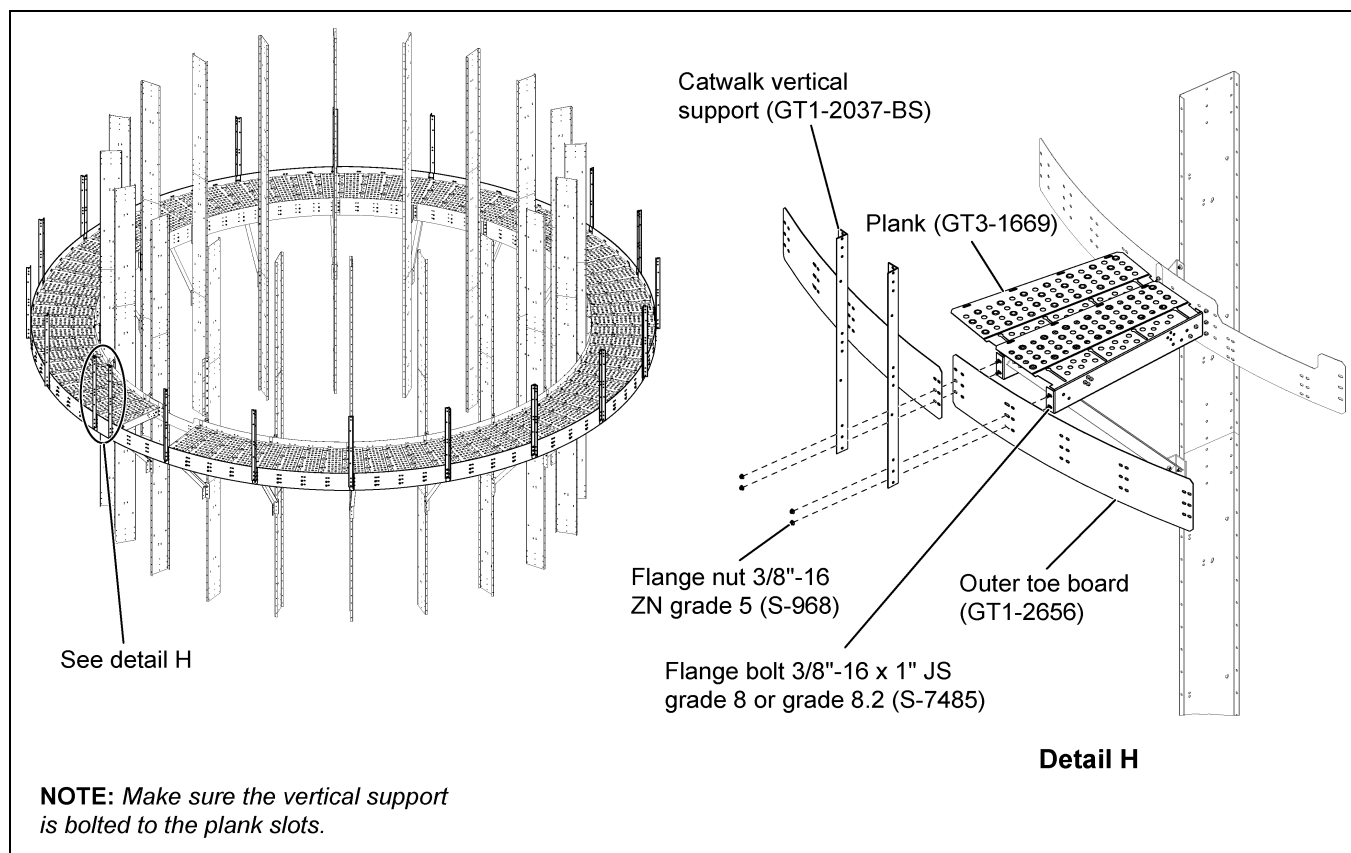
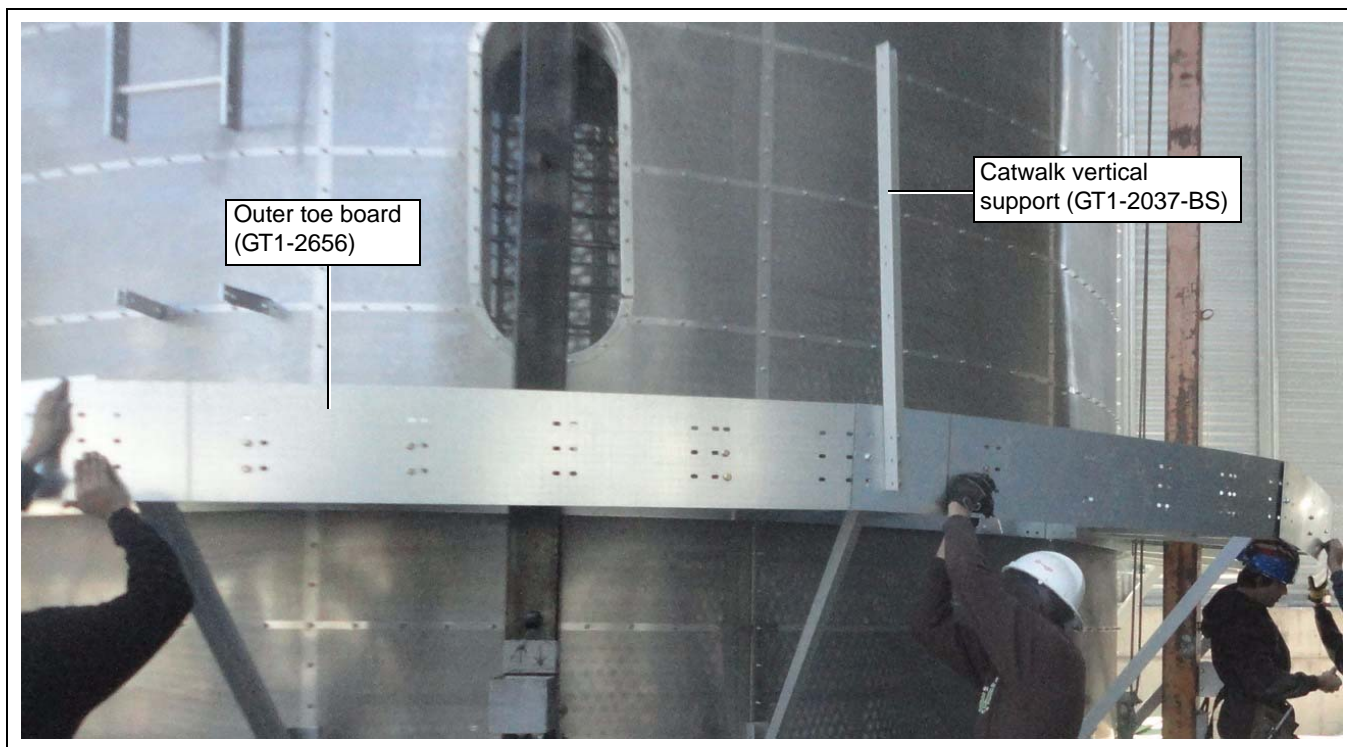

Figure 4R
Figure 4T
1. Install all the outer toe boards (GT1-2656) to the planks (GT3-1669). (*See Figure 4R.*)
2. When installing the outer toe board (GT1-2656) with planks (GT3-1669), install the catwalk vertical support (GT1-2037-BS) simultaneously at proper locations using 3/8"-16 x 1" JS grade 8 or grade 8.2 bolts (S-7485) and 3/8"-16 ZN grade 5 nuts (S-968). (*See Figure 4R and Figure 4T on Page 27.*)